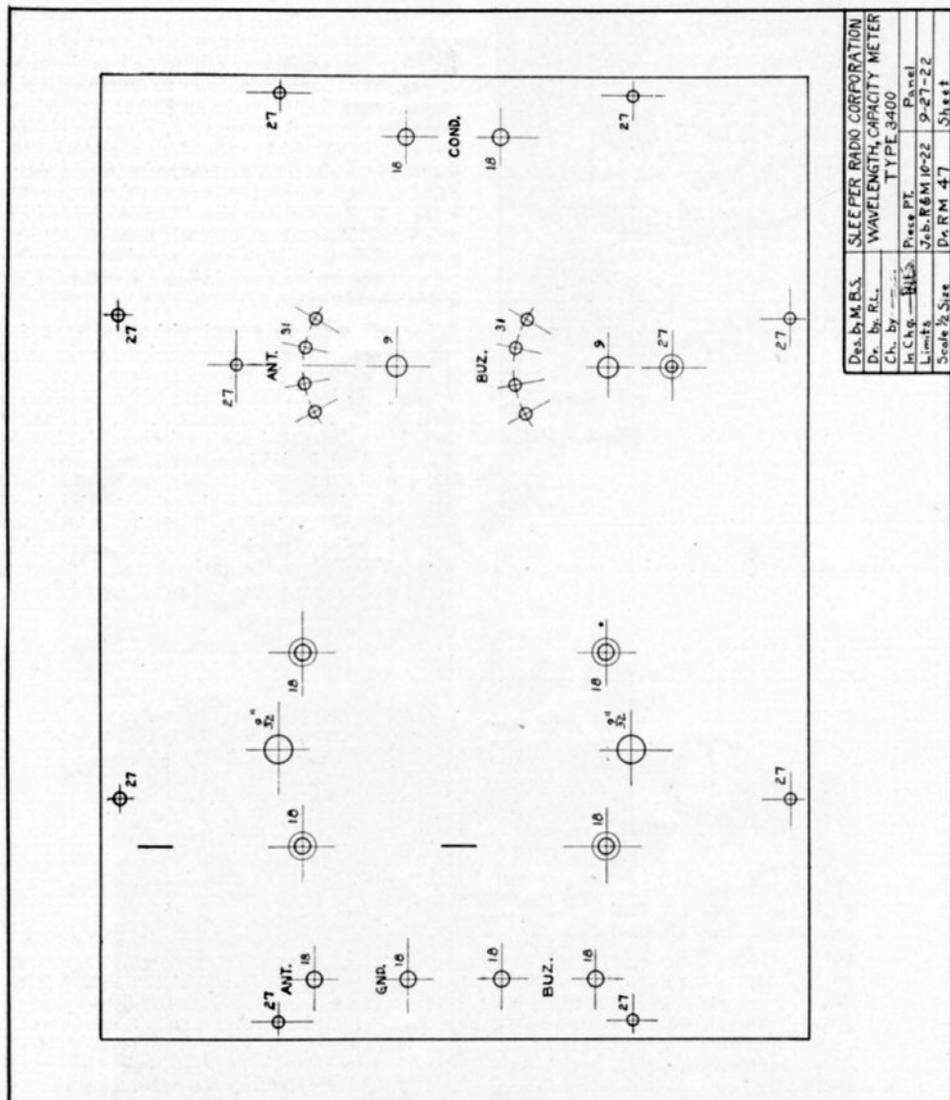

Fig. 4. One-half scale drawing of the front panel showing the location of the holes.
**Construction of the Set** Two Sleeper Radio Standardized variable condensers of 0.001 mfd., two coils wound on the same tube, and two switches, with the necessary binding posts, comprise the set. These parts are mounted on an L. P. F. panel  $7\frac{1}{2}$  by  $7\frac{1}{2}$  ins.,  $\frac{3}{16}$  in. thick, secured to a hinged-cover mahogany cabinet. A scale drawing of the front panel and coil tube, exactly one-half size, appears in Fig. 4. Dimensions can be scaled off with a pair of dividers, doubling each measurement to get the full size. Drill sizes are given by numbers. Concentric circles indicate countersinking for flat head screws.